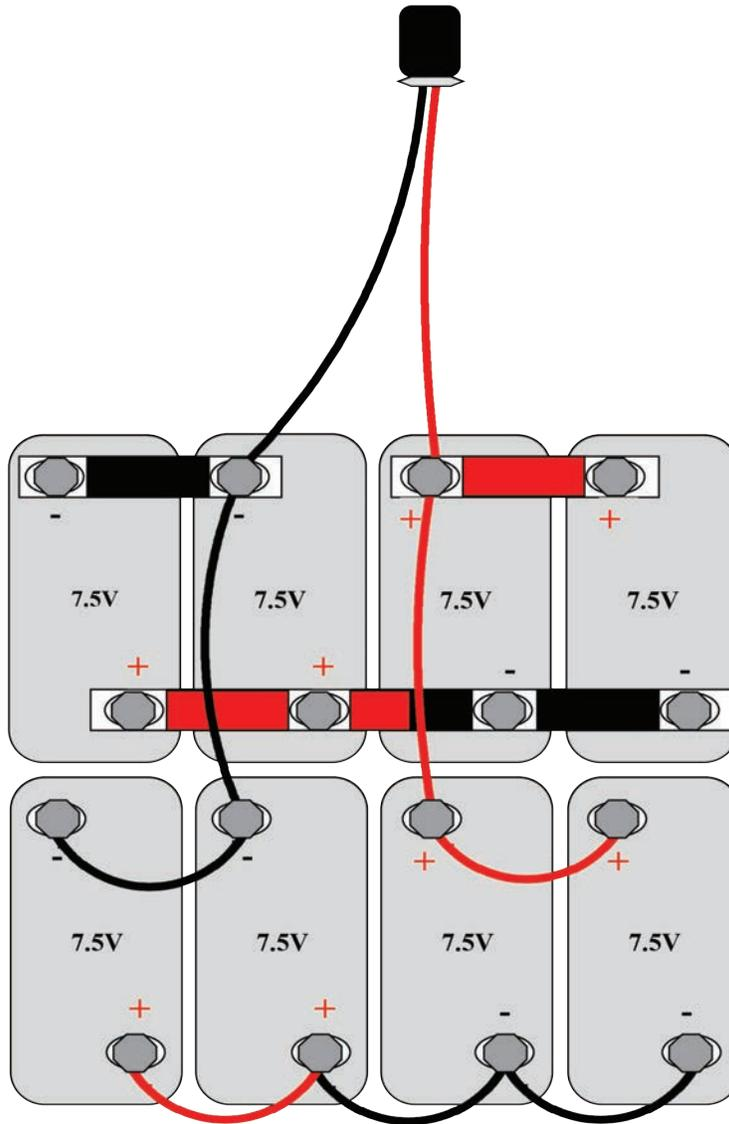

Figure 1: +15 VOLT DOUBLE BATTERY CONFIGURATION
2. VOLTAGE SELECTION: (See Figure 1)